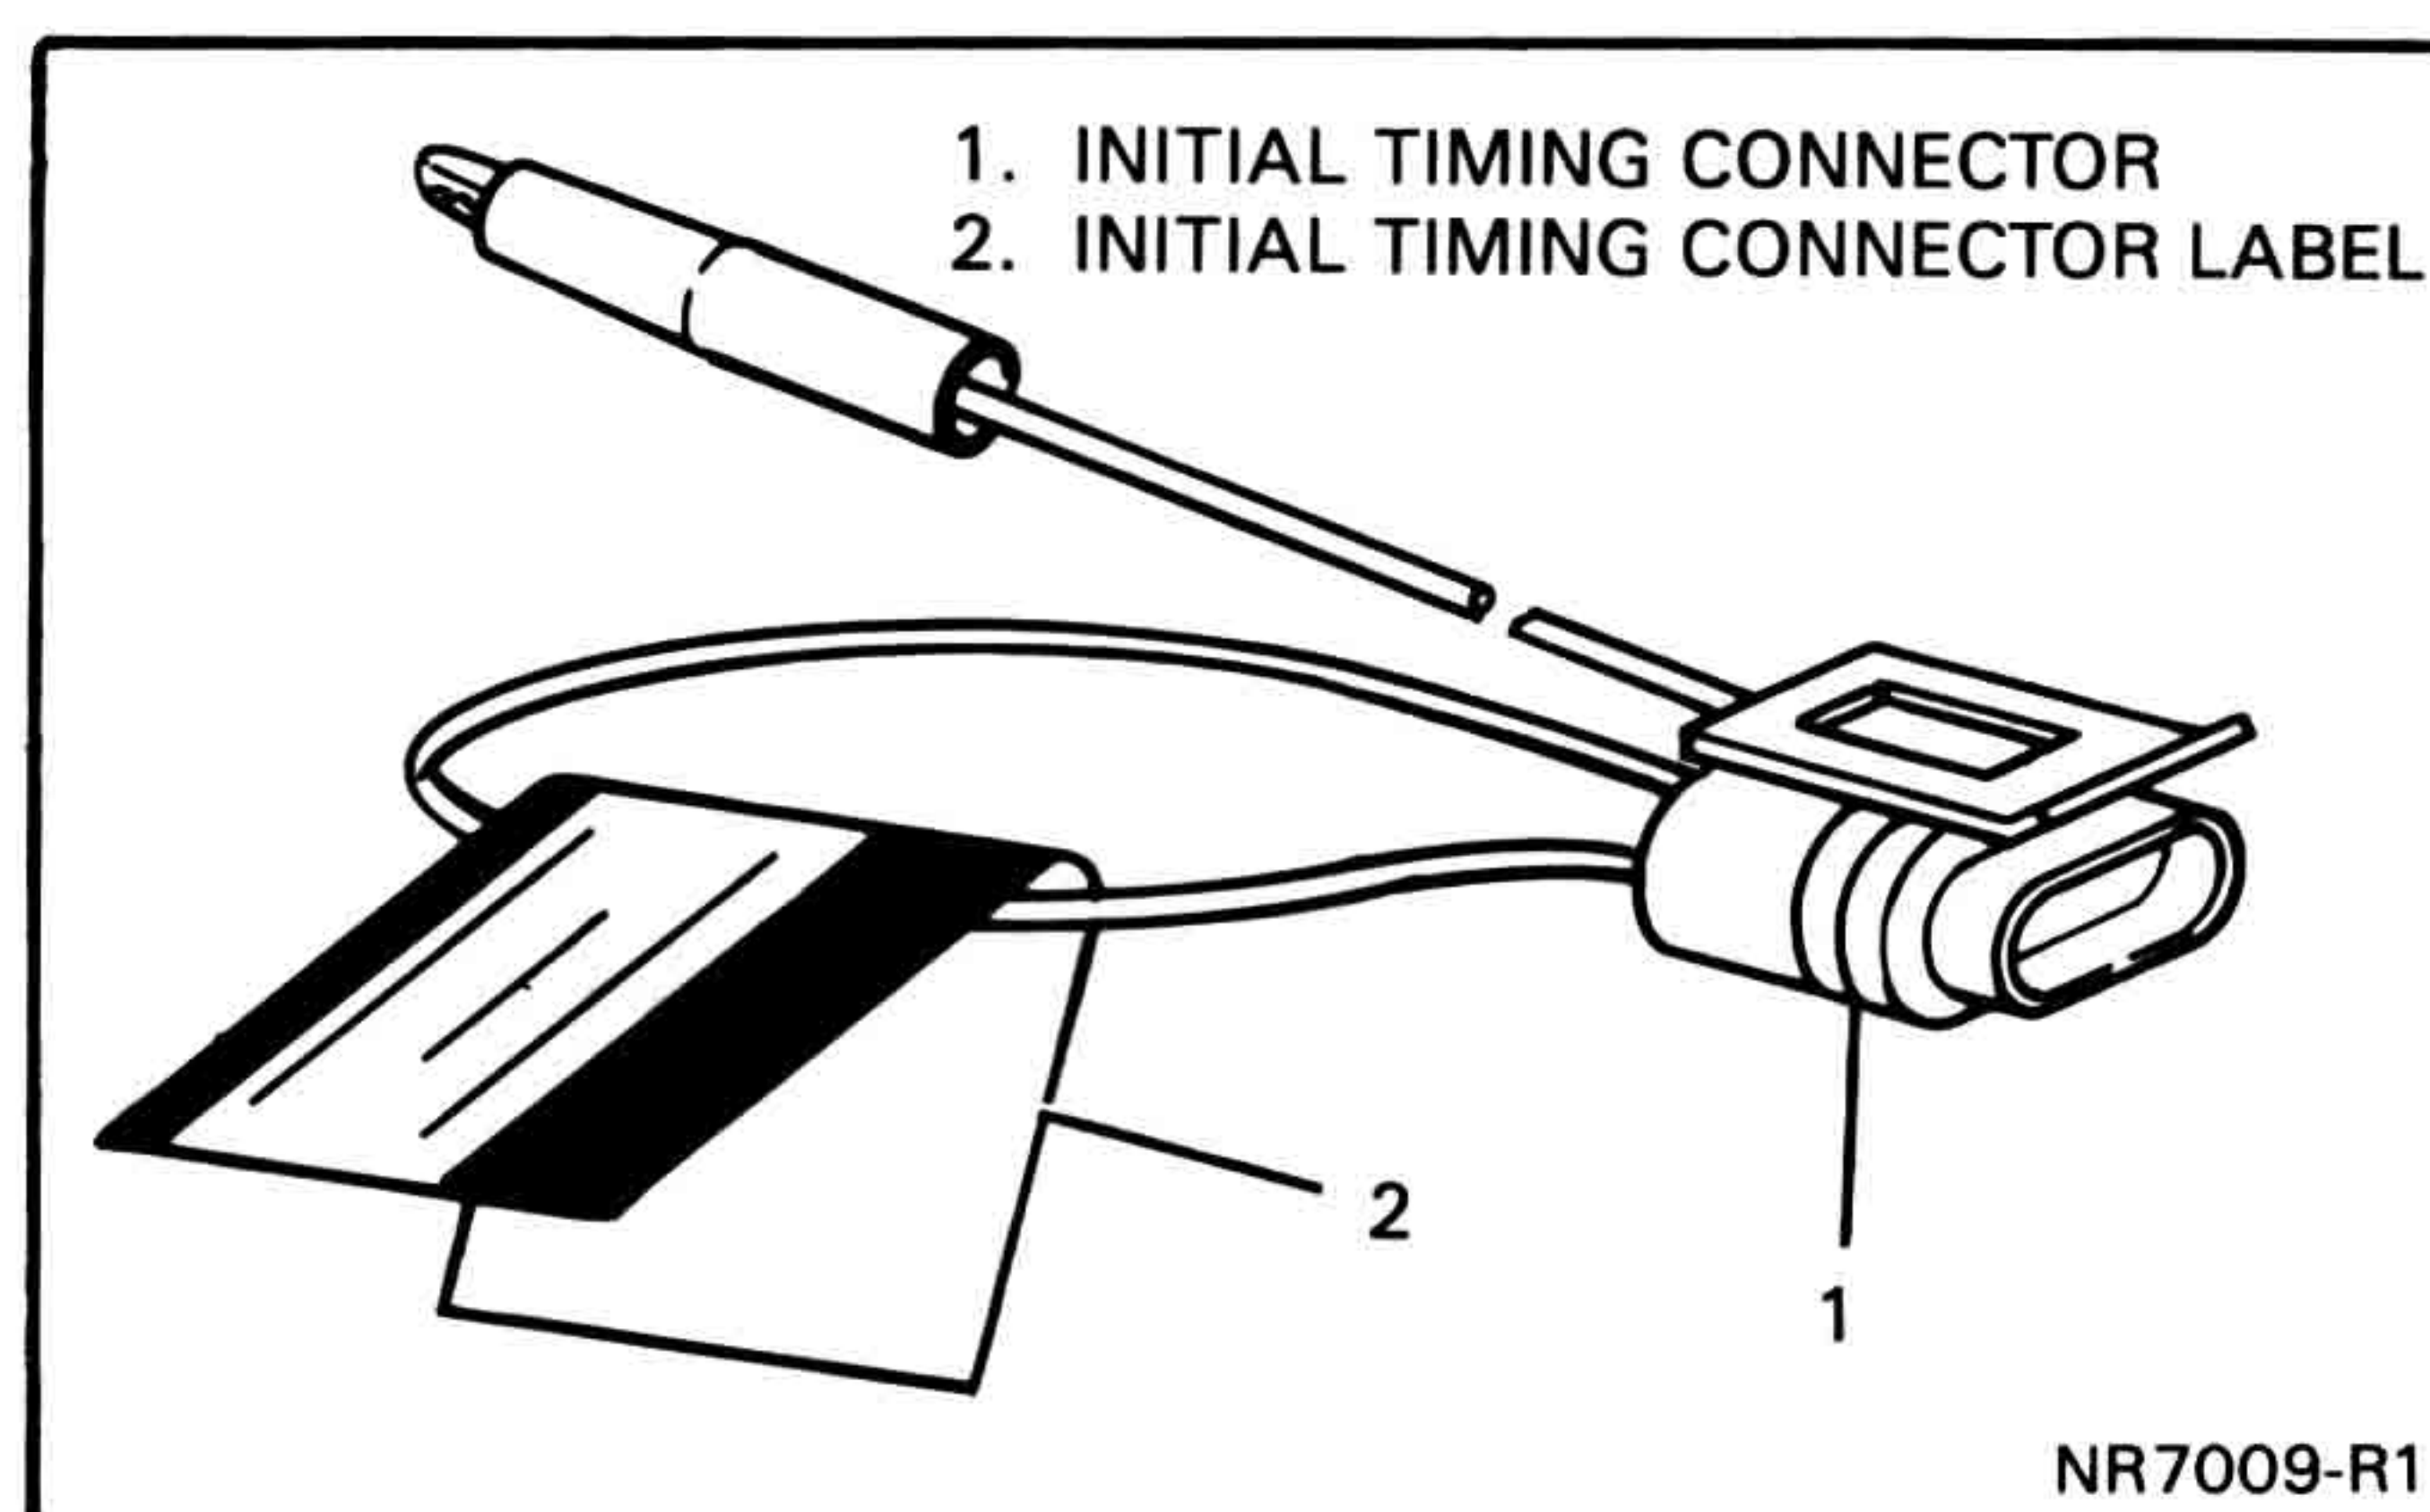

Figure 9 — Installing Initial Timing Connector Label
29. Disconnect initial timing connector from B+ source and remove connector from distributor. Label initial timing connector as shown in figure 9 by folding adhesive label (in package) over one of the wires, matching the edges to cover the adhesive. Store connector in safe place; keep with engine for future use.